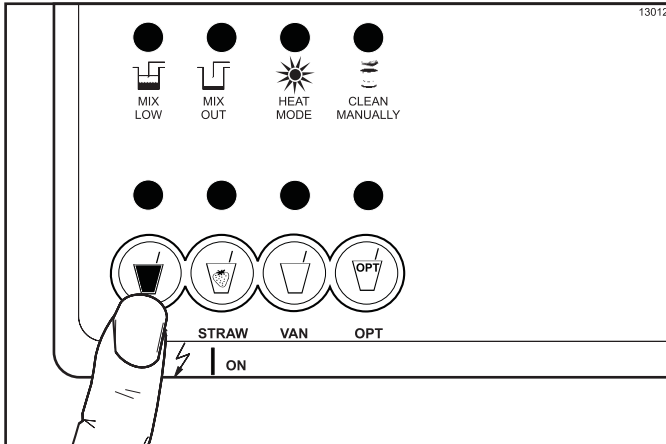

Figure 6-63
- Push the corresponding syrup flavor key. The light should be illuminated. (See Figure 6-63.)